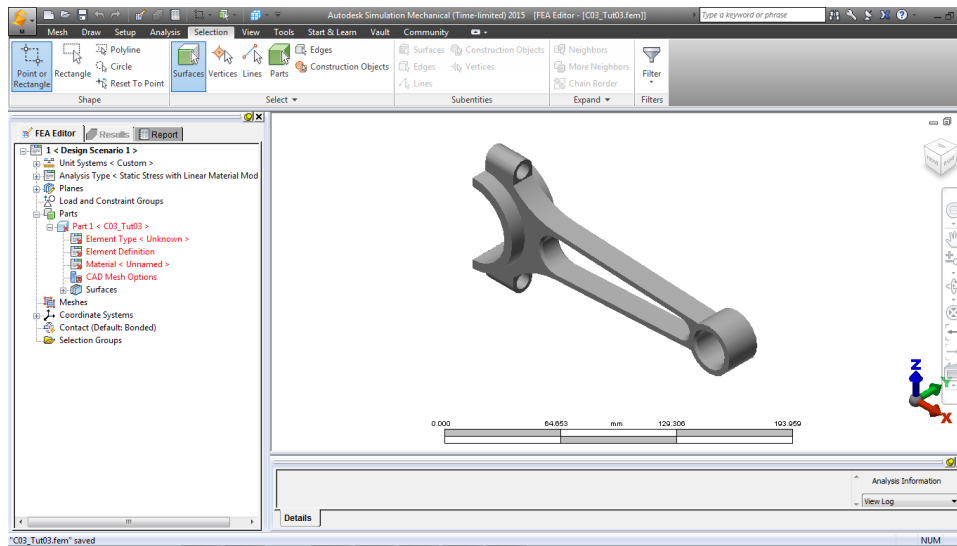

Figure 3-47 The STEP file is imported into Autodesk Simulation Mechanical
6. Accept the default selection and choose the **OK** button from the dialog box; the STEP file is opened into the Autodesk Simulation Mechanical, as shown in Figure 3-47.